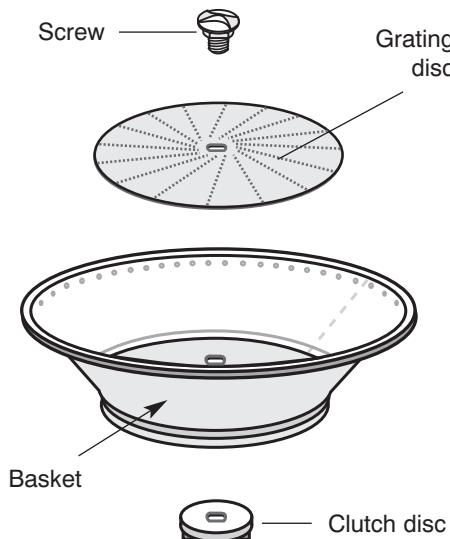

Fig. 11
- For a periodic deep-cleaning you can disassemble the parts of the basket by unscrewing the clutch disc (Fig. 11).
Reassemble in reverse order (Fig. 11) making sure that the parts are tightly attached to one another.